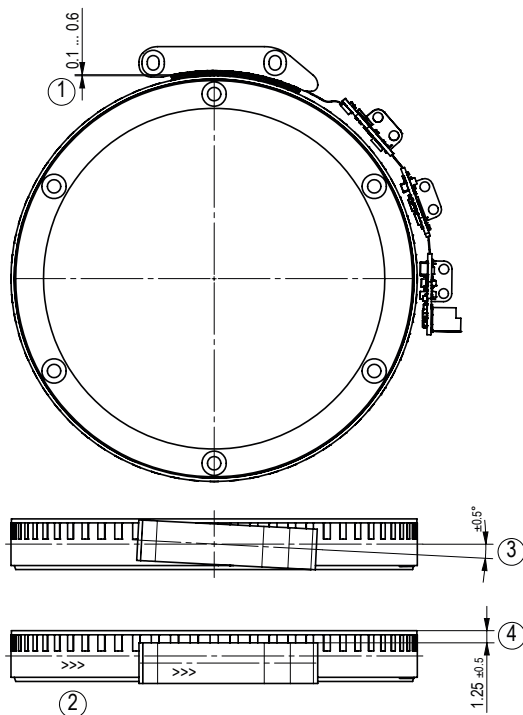

Fig. 4: Mounting tolerances MSAC200 with MRAC200
- ▶ Take care that the magnetic sensor is aligned correctly in order to ensure optimum sensing (see Fig. 4).